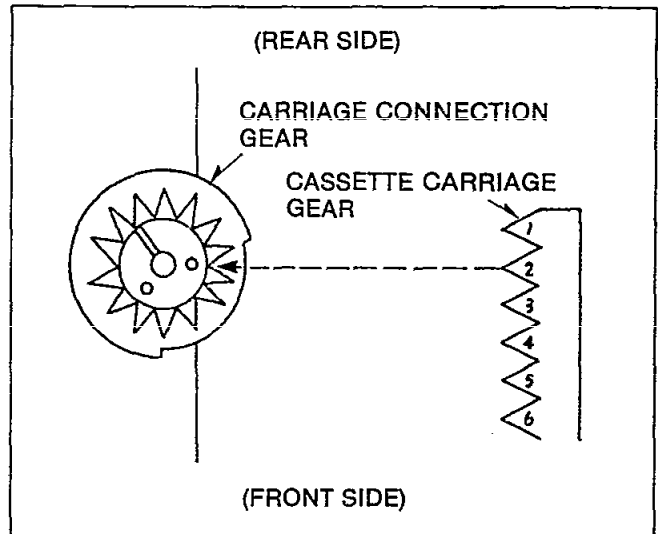

Fig. K14
- 2) Turn the LOADING MOTOR by hand in the unloading direction until the CARRIAGE CONNECTION GEAR and the MODE SW is eject position as shown in Fig.K14/K15
- 3) Install the CASSETTE HOLDER UNIT as shown in Fig.K14.